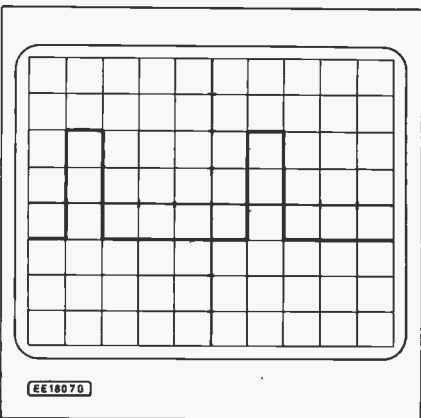

Fig. 5.12. Display for duty cycle and mark/space calculation.
11. State the duty cycle and mark/space ratio of the waveform of Fig. 5.12.